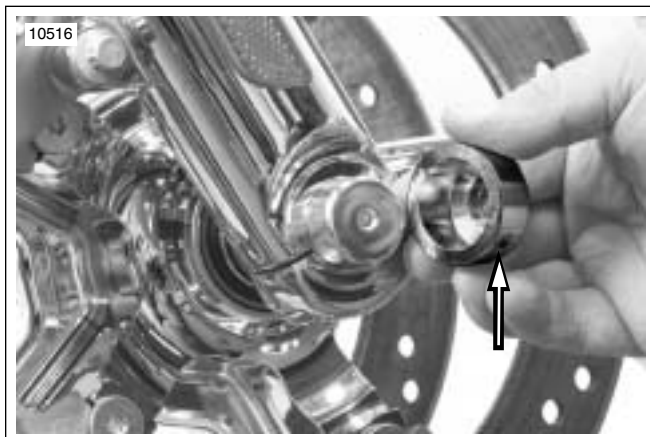

Figure 2-5. Set Screw
1. See Figure 2-5. Loosen but do not remove set screw from cover. Remove covers from front axle.